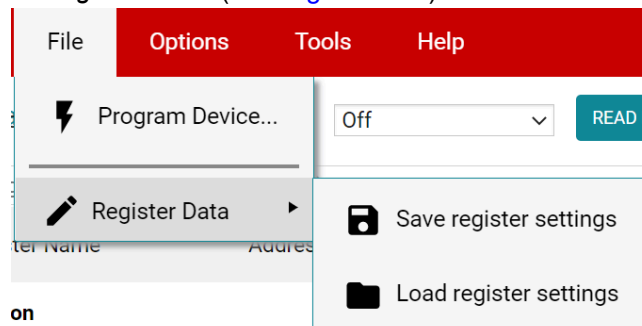

Figure 4-12. Save and Load Register Settings
- For convenience, register settings can be saved and loaded back later to any device with the same register map. To do this, go to *File > Register Data*. (See Figure 4-12.)